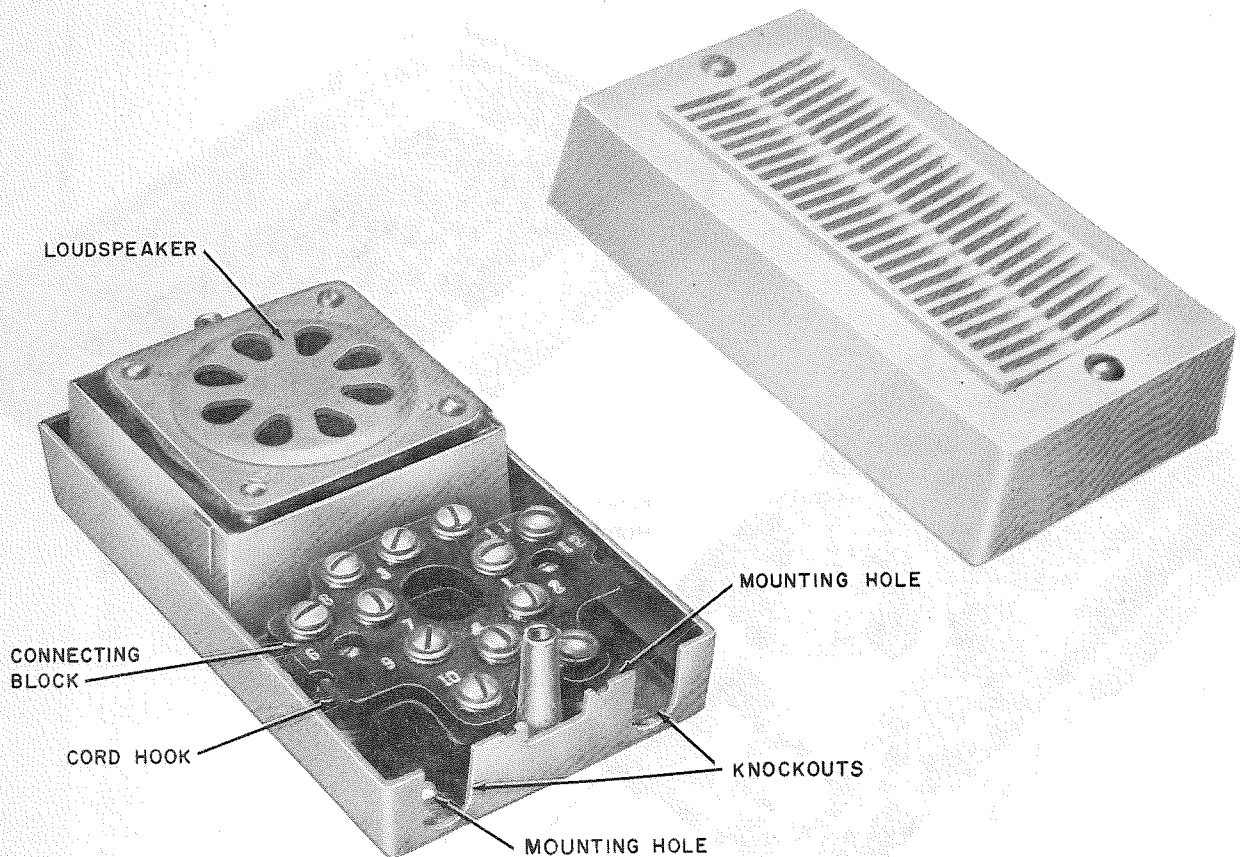

Fig. 2—759A (MD) Loudspeaker
- (b) Four mounting holes are provided in the base for securing to the mounting surface (Fig. 2). Cord and cable enter through two holes in base or through the end after removing the knockouts.